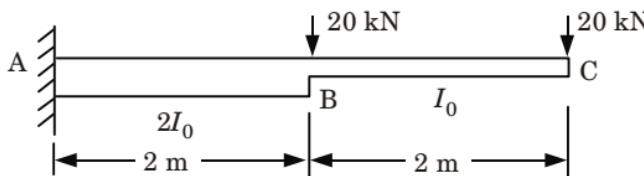

Fig. 3.10.1.
**Que 3.10.** Determine the deflection and rotation at the free end of the cantilever beam shown in Fig. 3.10.1